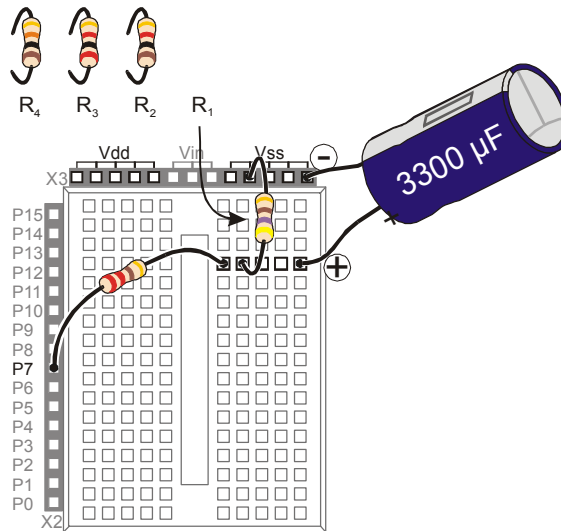

Figure 5-9
Figure 5-8 shows the circuit schematic and Figure 5-9 shows the wiring diagram for this activity. You will be taking time measurements using different resistor values in place of the resistor labeled R_i .
Your 3300 μF capacitor will work fine in this experiment so long as you make sure that the positive (+) and negative (–) terminals are connected EXACTLY as shown in Figure 5-8 and Figure 5-9.
- ✓ Remove the 470 Ω resistor labeled R_i in Figure 5-8 and Figure 5-9 on page 141, and replace it with the 1 k Ω resistor.